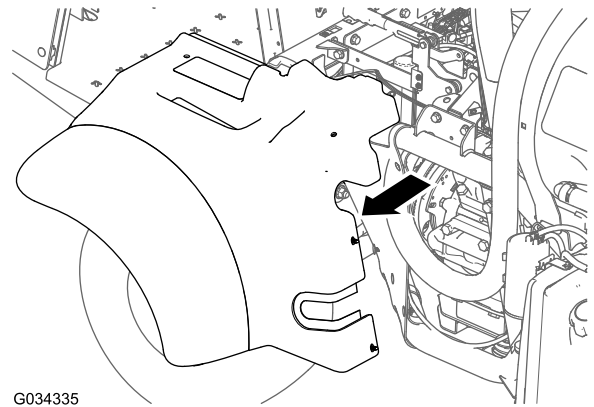

Figure 4
3. Lift the seat base and fender away from the parking brake and off the machine (Figure 4).